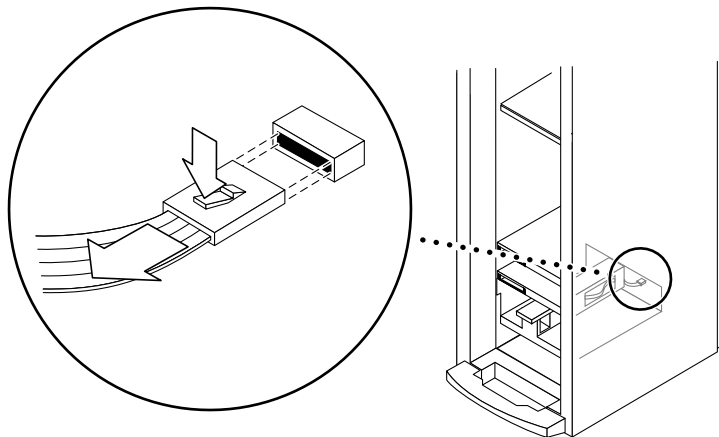

FIGURE 12-36 Disconnecting the LED Cable From the Centerplane—Sun Fire 3800 System
4. From the front of the system, disconnect the LED cable from the centerplane (FIGURE 12-36).
4. From the front of the system, connect the LED cable from the centerplane (FIGURE 12-36).